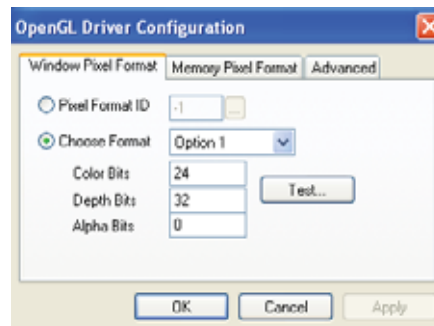

Figure 5-94: *OpenGL Driver Configuration* dialog box
4. In the *OpenGL Driver Configuration* dialog box (figure 5-94), select Pixel Format ID and enter this number.